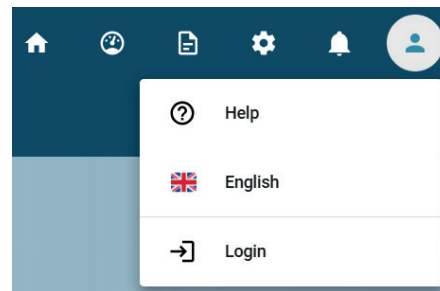
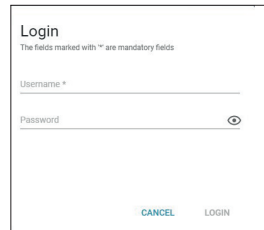

Fig. 8-2: User menu (not logged in)
Fig. 8-10: Login dialog
1. *LOGIN* (see Fig. 8-2 on page 93) opens the login dialog (see Fig. 8-10).